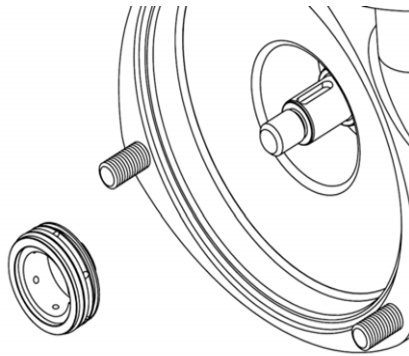

Figure 7
9. Remove stationary seal once pushed out of its' bore. See Figure 7. Check the condition of the casing, rotating seal, and stationary seal. Clean and remove any foreign matter before reinstalling the seal.